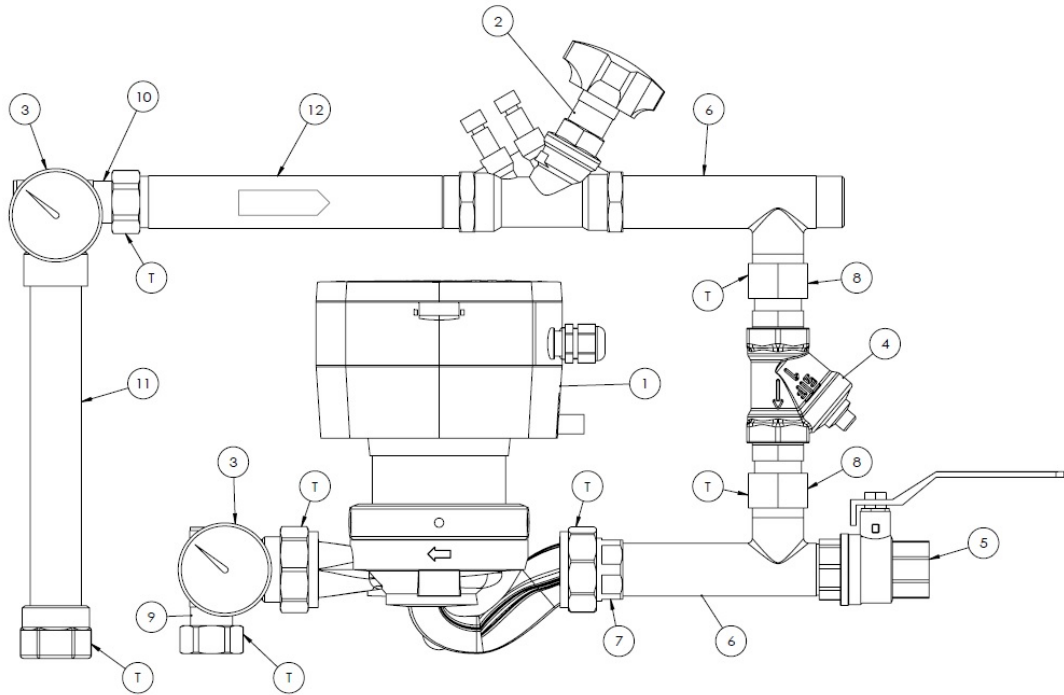

Figure 9.5.1: Heating coil pump group
A heating coil pump group, as shown in Figure 9.5.1, is available as an accessory for the unit series. The pump group is always the same regardless of the handedness or size of the ventilation unit. In addition to the components shown in the figure, the pump group delivery includes a 2-way control valve suited according to dimensioning, control valve actuator and reducers if the control valve is smaller in size than DN25. The pump group's glue joints have been tested for pressure at the factory. In addition to the glued joints, the pump group has level gasket joints components that can be replaced, such as the circulator (1) and check valve (4).